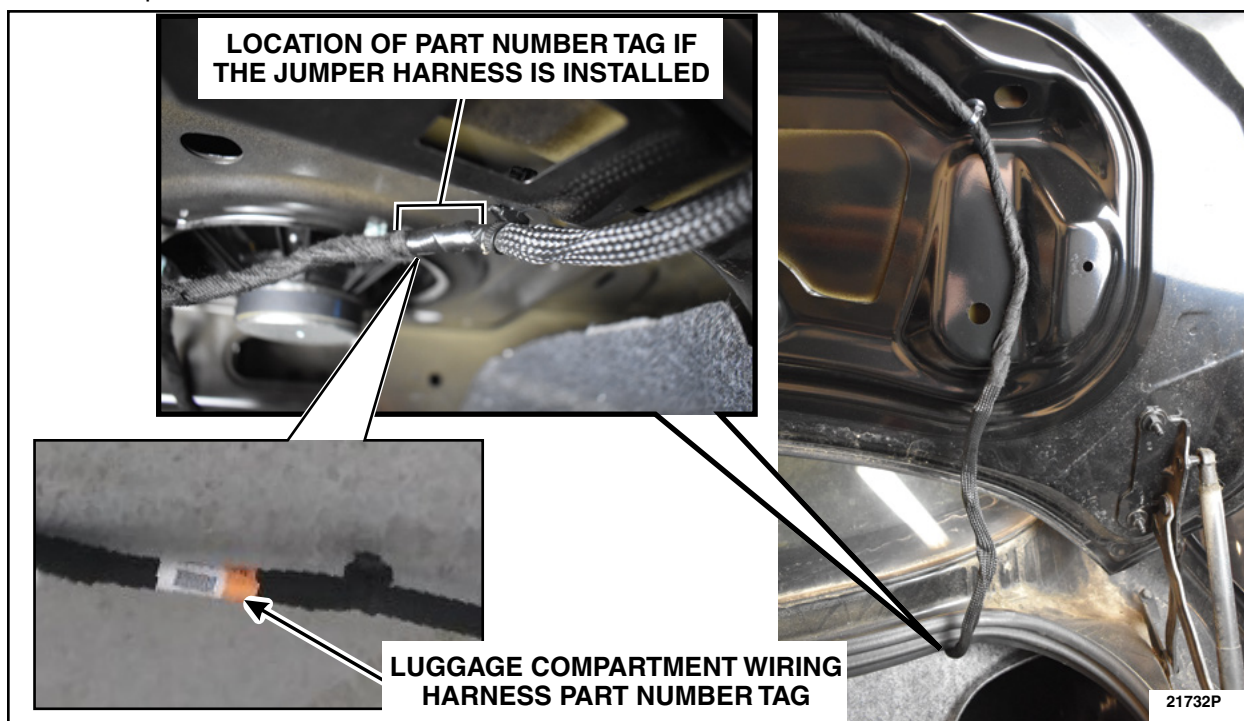

FIGURE 3
6. Inspect the luggage compartment wiring harness, after the first wire harness push pin retainer, within the luggage compartment for a part number tag. See Figure 3.